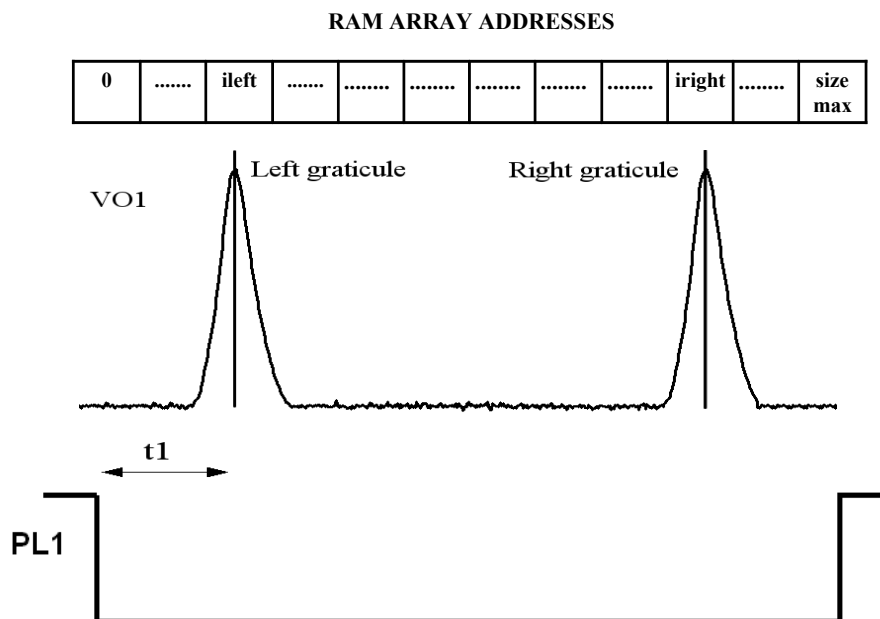

Figure 6 — This diagram illustrates the concept of the SAN2PC frequency calibration technique.
- Frequency: We said earlier that **sizemax** samples are written in **specarray** during *Normal* mode operation. Figure 6 (not to scale) shows that the PL falling edge appears earlier than the time the analyzer CRT spot crosses over the left graticule: it is thus necessary to know this delay, **t1**, in order to get a good frequency accuracy. Index **ileft** is a measure of this delay, and **iright** is representative of the delay between the time the spot crosses over the last right graticule and the rising edge of PL. During transmission to the PC, the only **specarray** values included in **ileft** to **iright** are sent.